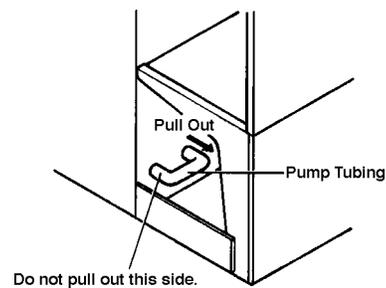

Fig. 4
- 3) Drain the Water Tank by removing the base cover and one end of the Pump Tubing. See Fig. 4.
- 6) Drain the Water Tank by removing one end of the Pump Tubing. See Fig. 4.
- 28) Drain the Water Tank by removing one end of the pump tubing. See Fig. 4.